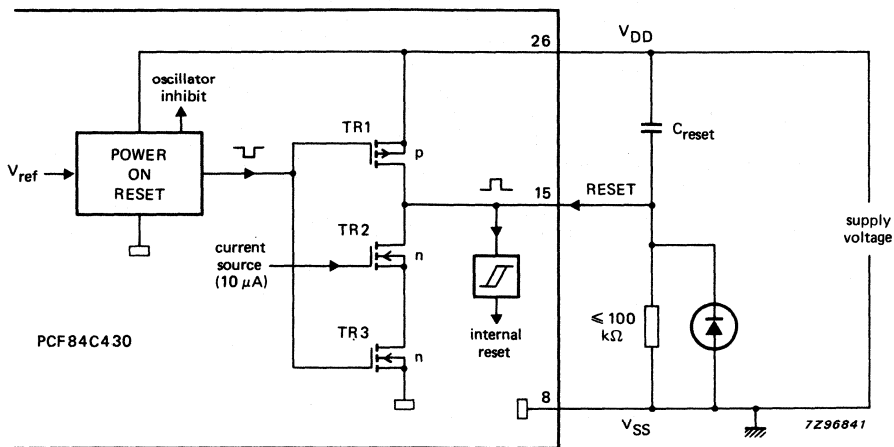

Fig. 23 Stretched power-on-reset with external components.
2. If  $V_{DD}$  has a slow rise time then the RESET signal should be stretched by an external RC circuit (see Fig. 23 and 24). In the event of a short drop in the supply voltage, the diode path rapidly discharges the capacitor to ensure a reliable power-on reset. To ensure a correct reset, the RESET signal should reach at least 70% of the final value of  $V_{DD}$ . Given that the RESET voltage and  $V_{DD}$  rise exponentially, the above requirement is satisfied when the time constant  $\tau$  of the RESET pulse is  $> 8$  times the time constant of  $V_{DD}$ . If  $V_{DD}$  rises linearly, then a RESET time constant  $> 2$  times the rise time of  $V_{DD}$  is required.